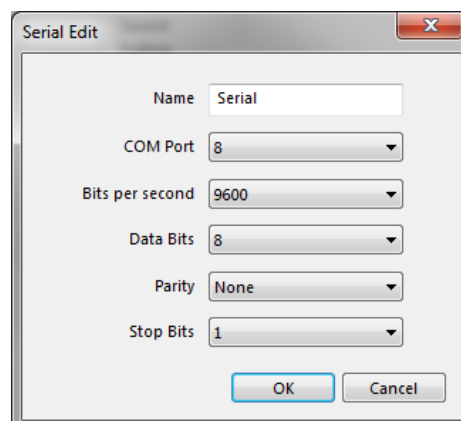

Figure 11: E-Prime MMBT-S Connection Settings
- 6) Set the settings of the serial device accordingly (Figure 11):